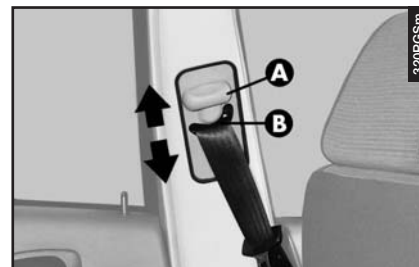

fig. 52
To adjust the attachment raise or lower the grip (**A-fig. 52**) and ring (**B-fig. 52**) to one of the set positions.
*After adjustment, always check that the slider is anchored in one of the positions provided. To do this, with the button (A-fig. 52) released, exert a further pressure to allow the anchor device to catch if release did not take place at one of the preset positions.*